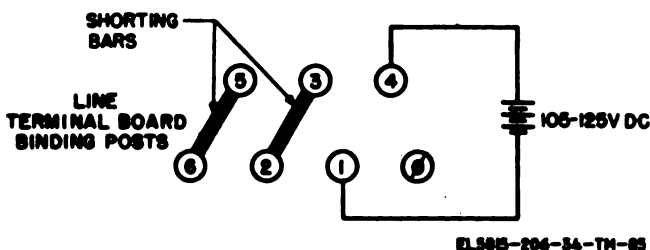

Figure 3-12. Teletypewriter test connections.
(1) If the local page printer operates properly when test signals are transmitted from the local keyboard-transmitter but does not operate properly when the test signals are transmitted from another station, the fault is either in the signal circuit or in the teletypewriter equipment at the other station.
(2) If the local page printer does not operate properly when the test signals are transmitted from the local keyboard-transmitter but does operate properly when the test signals are transmitted from any of the other stations in the system, the fault is in the local keyboard-transmitter.
(3) If the local page printer does not operate properly regardless of the source of test signals, the trouble is in the local page printer.
(4) If the fault is determined to be in the local teletypewriter, follow the instructions in *c* below.
*c. Local Test Method.* Connect high level teletypewriters for local test as shown in fig. 3-12 or low level teletypewriters as described in paragraph 3-18*b*. Check the performance of the teletypewriter as described in paragraphs 3-7, 3-8, and 3-9 of TM 11-5815-206-12. If the performance checks do not reveal the fault, make the tests described in paragraphs 3-18, 3-19 and 3-20.
(a) *Signal circuit TT-4(\*)/TG, TT-335/TG and TT-537/G (fig. 3-12).*